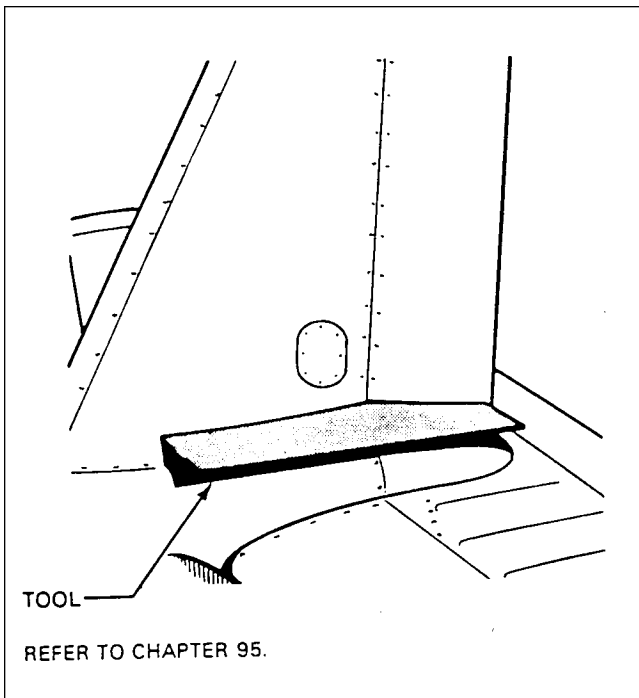
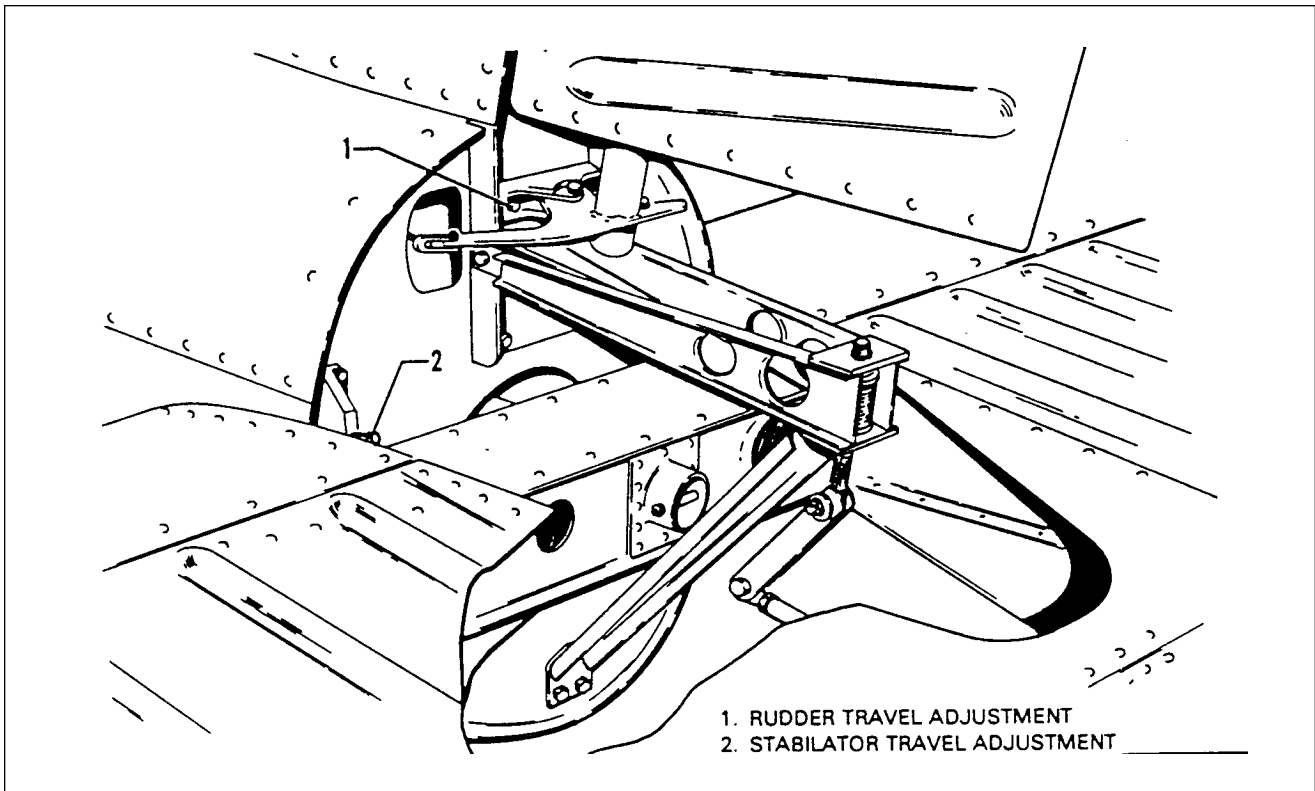

Figure 27-9. Rudder Rigging Tool
Figure 27-11. Rudder Rigging
- b. With rudder against its stop, place a rigging tool against side of rudder and vertical stabilizer as shown in figure 27-9. (Check that tool is not contacting any rivets.) If no gap exists between rigging tool and surface of rudder and vertical stabilizer, rudder stop for one direction of travel is correct. (figure 27-11) (This tool may be fabricated from dimensions in chapter 95.)